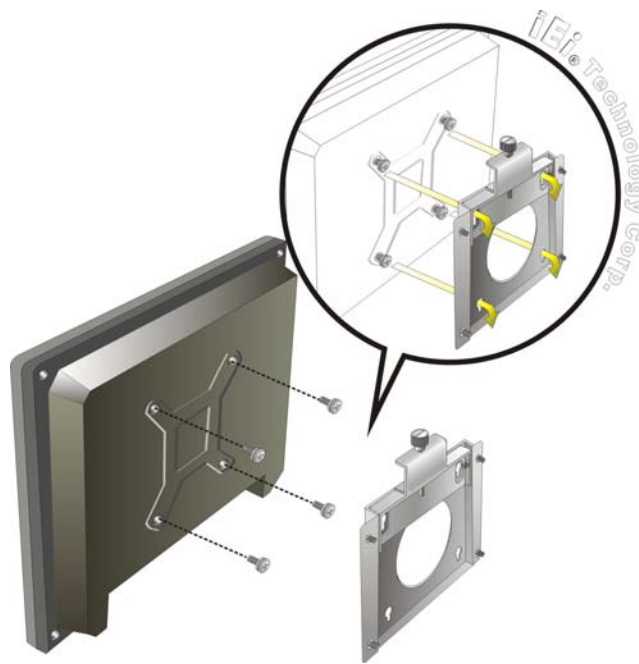

Figure 2-12: Chassis Support Screws
- Step 6:** Insert the four monitor mounting screws provided in the wall mounting kit into the four screw holes on the rear panel of the panel PC and tighten until the screw shank is secured against the rear panel (**Figure 2-12**).
- Step 8:** Carefully insert the screws through the holes and gently pull the monitor downwards until the monitor rests securely in the slotted holes (**Figure 2-12**).